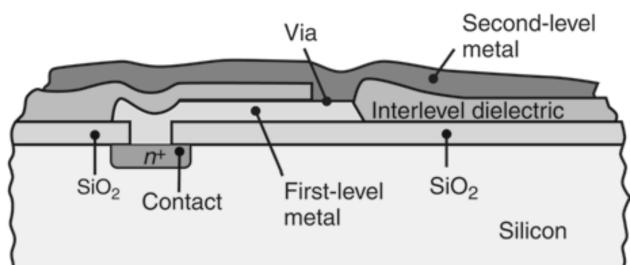

Figure 4[a]
4. [a] Figure 4[a] shown above is the two-level metal interconnect structure in which a layer of silicon dioxide (SiO_2) has been placed in between a first-level metal and a silicon substrate.
(ii) Based on Figure 4[b], sketch the holes that will be generated from a square mask on a $<100>$ silicon wafer using isotropic and anisotropic etching respectively.
(20 marks)**Figure 4[b]**